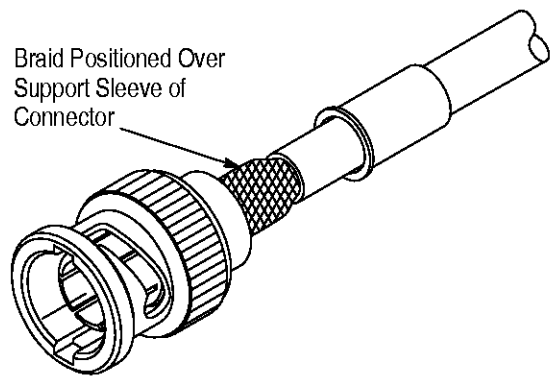

Figure 4
5. Flare cable braid, and insert center contact into plug body, making sure that the cable braid is positioned over the support sleeve of the connector. See Figure 4.